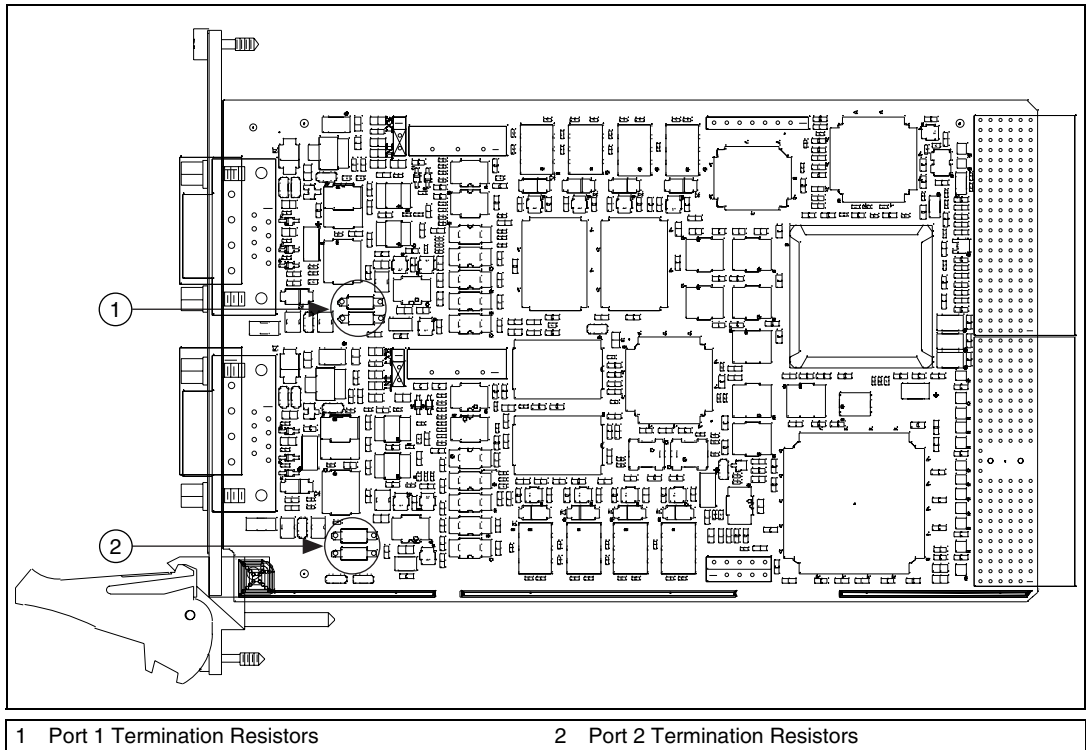

Figure 4-10. Location of Termination Resistors on a PXI-8460
1. Remove the termination resistors on your PXI-8460. Figure 4-10 shows the location of the termination resistor sockets on a PXI-8460.